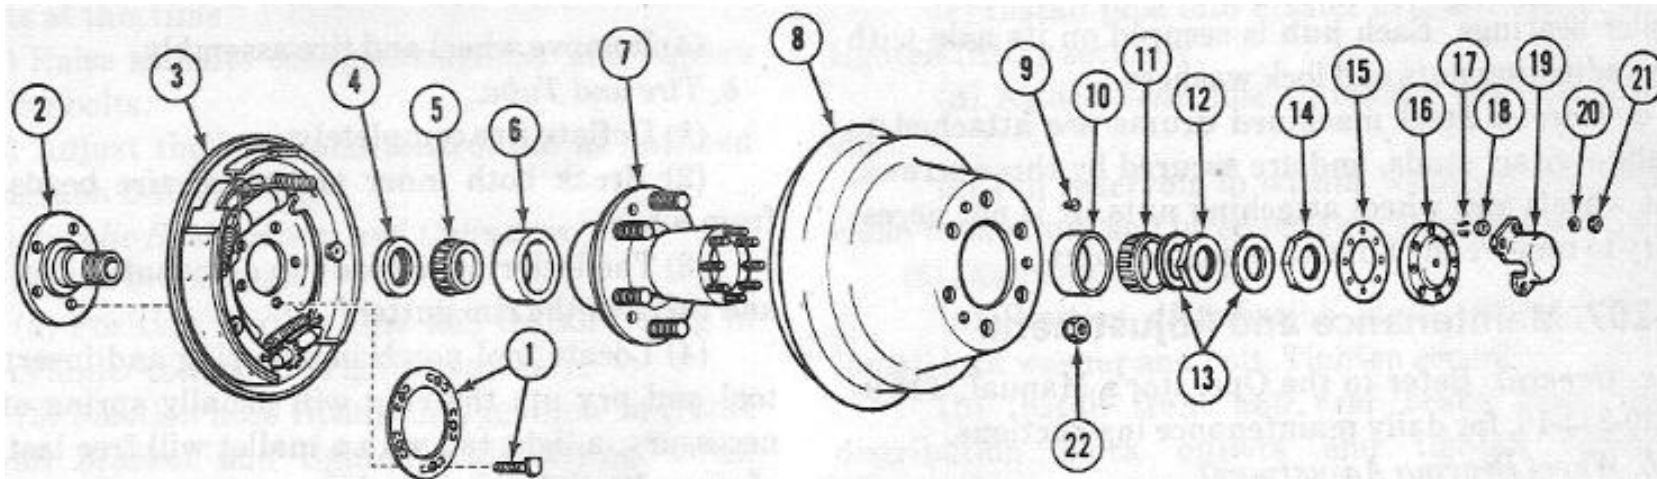

Figure 2-89. Front wheel attaching parts.
- (1) Deflate tire completely.
- (2) Break both inner and outer tire beads free from wheel.
- (3) The lock ring is ready to demount if it is loose and turns in the rim gutter.
- (4) Locate tool notch in side ring and insert rim tool and pry up, the ring will usually spring off. If necessary, a light tap with a mallet will free last half of ring after it has been pried up.
(5) Remove tire from rim and remove inner tube.
c. Hub and Drum. (Fig 2-89 and 2-90)
(1) Remove tire and wheel (a) above.
(2) Remove three countersink screws attaching drum to hub.
(3) Strike edge of drum with a mallet and pull straight off of hub.
(4) Remove nuts and lock washers which secure axle shaft and/or driving flange to hub.
(5) Remove axle shaft and/or driving flange and gasket; discard gasket.
(6) Using Tool FSN 5120-168-2286, remove lock nut and lock washer.
(7) Remove adjusting nut, inner lock washer and pull hub off of axle housing.
a. Bearings. (Fig 2-89 and 2-90)
(1) Position inner bearing in hub race.
(2) Position new oil seal on hub. Use driver tool and hammer, seat oil seal on hub.
(3) Refer to (b) below for installation of outer bearing.
b. Hub and Drum. (Fig 2-89 and 2-90)
(1) Apply a thin film of grease to each face of wheel hub seal.
(2) Position hub assembly on axle housing.
(3) Position outer bearing and lock washer over axle housing and in hub race.